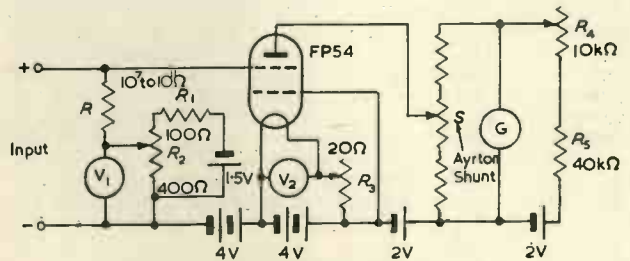

Fig. 7. Electrometer valve circuit (DuBridge)
- (2) Use a rate of charge of the grid method4,20,24, comparing with the method, described previously, of measuring very small grid currents.
Method (1) is conveniently discussed in relation to the work of DuBridge24, who employed an FP54 electrometer valve. (Fig. 7.)